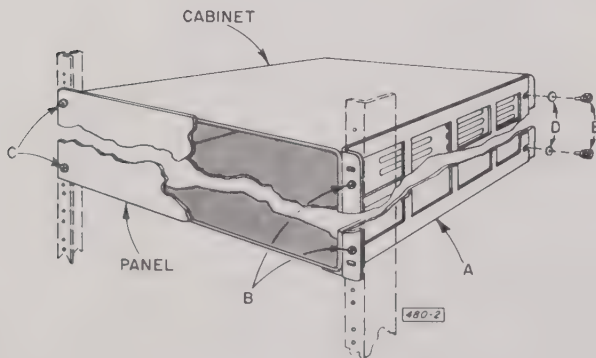

Figure 2-4. Relay rack mounting.
For rack mounting, special brackets and a kit consisting of attaching hardware is supplied. Table 2-2 lists the contents of the kit. The brackets permit either cabinet or instrument to be withdrawn independently of each other. Figure 2-4 illustrates both bracket attachment and rack mounting.
c. Place the right-side-rack support (A) on the right side of the cabinet. Be sure that the flange with the mounting holes is forward and flush with the front of the cabinet (see Figure 2-4) when the other flange (without holes) is resting against the bottom of the cabinet.
d. Assemble two pairs of flatwasher (D) and thumbscrew (E).